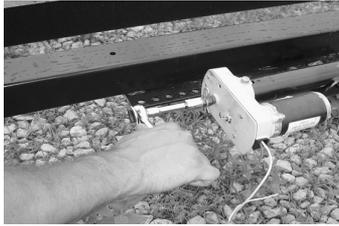

Fig. 4-Ratchet
7. Bend back the wipe seal and visually locate the motor (Fig. 4).